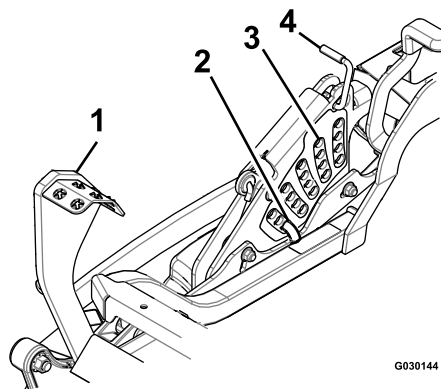

Figure 24
4. Raise and lock the deck to the 5 1/2 inch (14 cm) transport position (Figure 24).